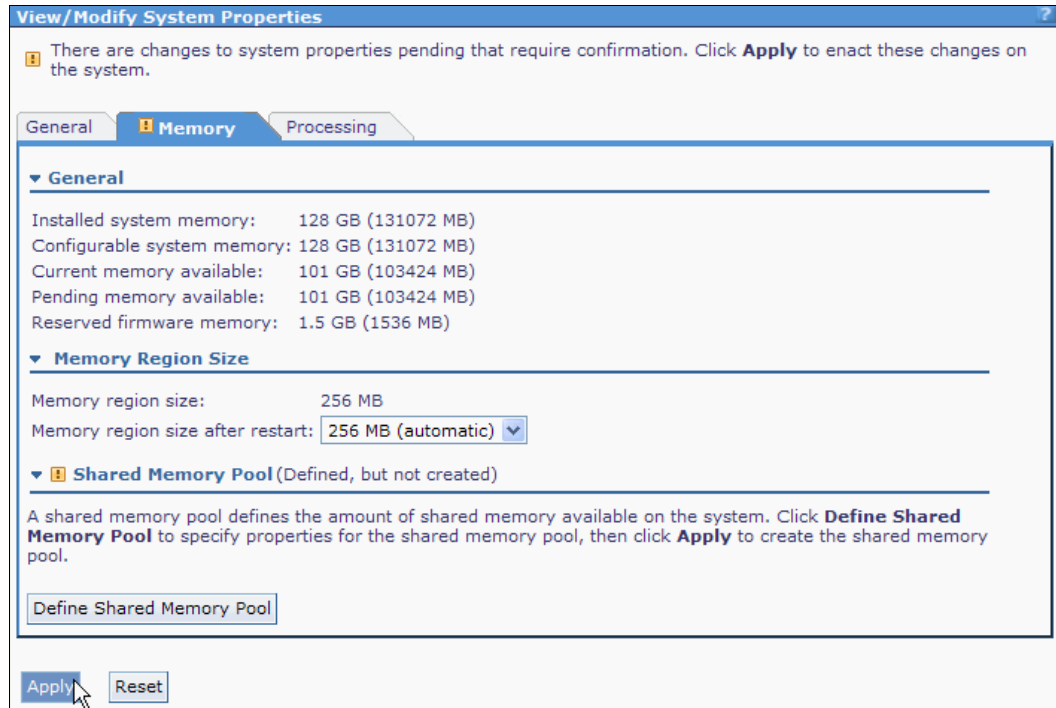

Figure 4-24 Applying AMS pool configuration
5. You will see exclamation marks on the window, as shown in Figure 4-24. This view shows that the AMS pool configuration is still pending. Click **Apply** to make the AMS pool configuration effective.